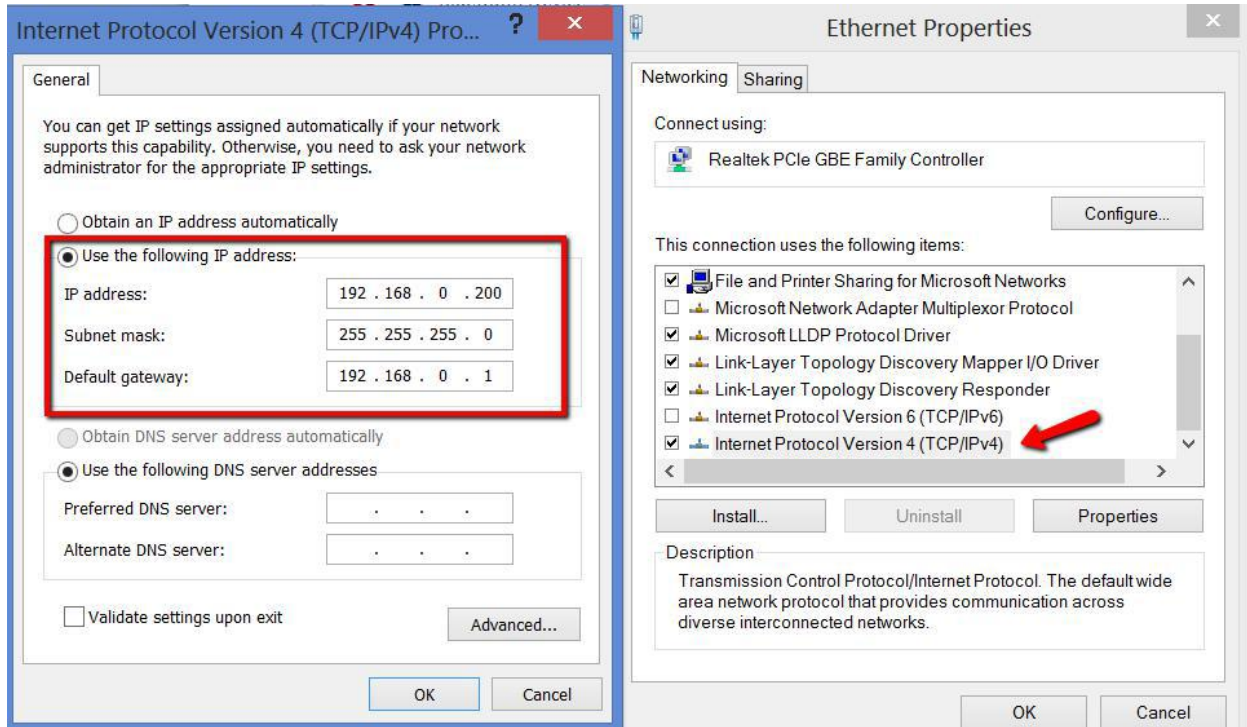

Figure 18 OLD IP SETTING
- Scroll Down and double click "TCP//IPv4" and Set the IP as below Figure 18.